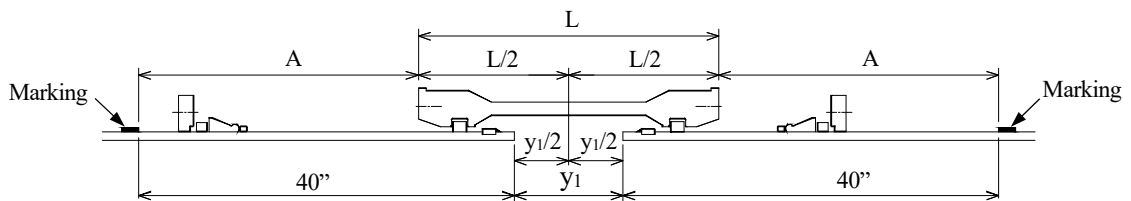

Figure 24 Correct position of collar
- 9) Slide the collar to the opposite side pipe so that the midst of the collar is at the midst of the standard distance y_1 between the spigots. This is ensured by making the distance between the white marking and socket end of the collar on each spigot pipe same (see Figure 24).